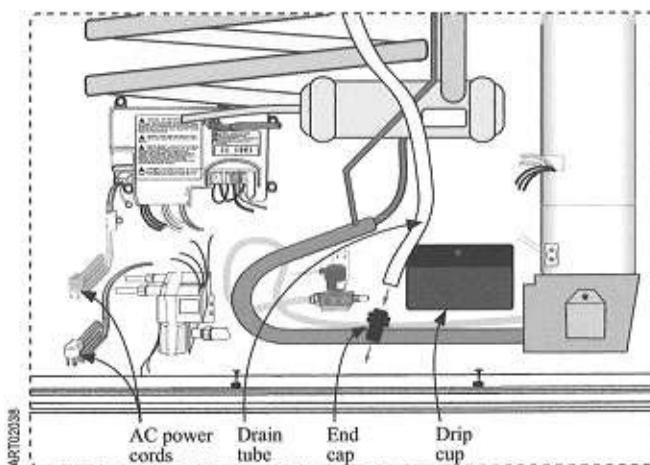

Figure 1. View from Exterior Access Panel
3. Disconnect both AC power cords from the refrigerator (one black and one white) at the RV's AC receptacles. Refer to Figure 1. No further shutdown is needed to complete this procedure.
1. From the exterior access panel, remove the white drain tube from the drip cup. Refer to Figure 1.